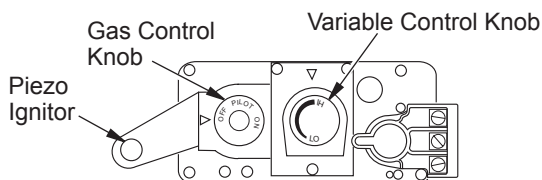

Figure 45 - Control Valve
7. Turn gas control knob counterclockwise ↺ to "PILOT". (see Figure 45)
8. Push in gas control knob all the way and hold. Immediately light the pilot by repeatedly depressing the piezo spark ignitor until a flame appears. Continue to hold for about one (1) minute after the pilot is lit. Release gas control knob and it will pop back. Pilot should remain lit. If it goes out, repeat steps 5 through 8.